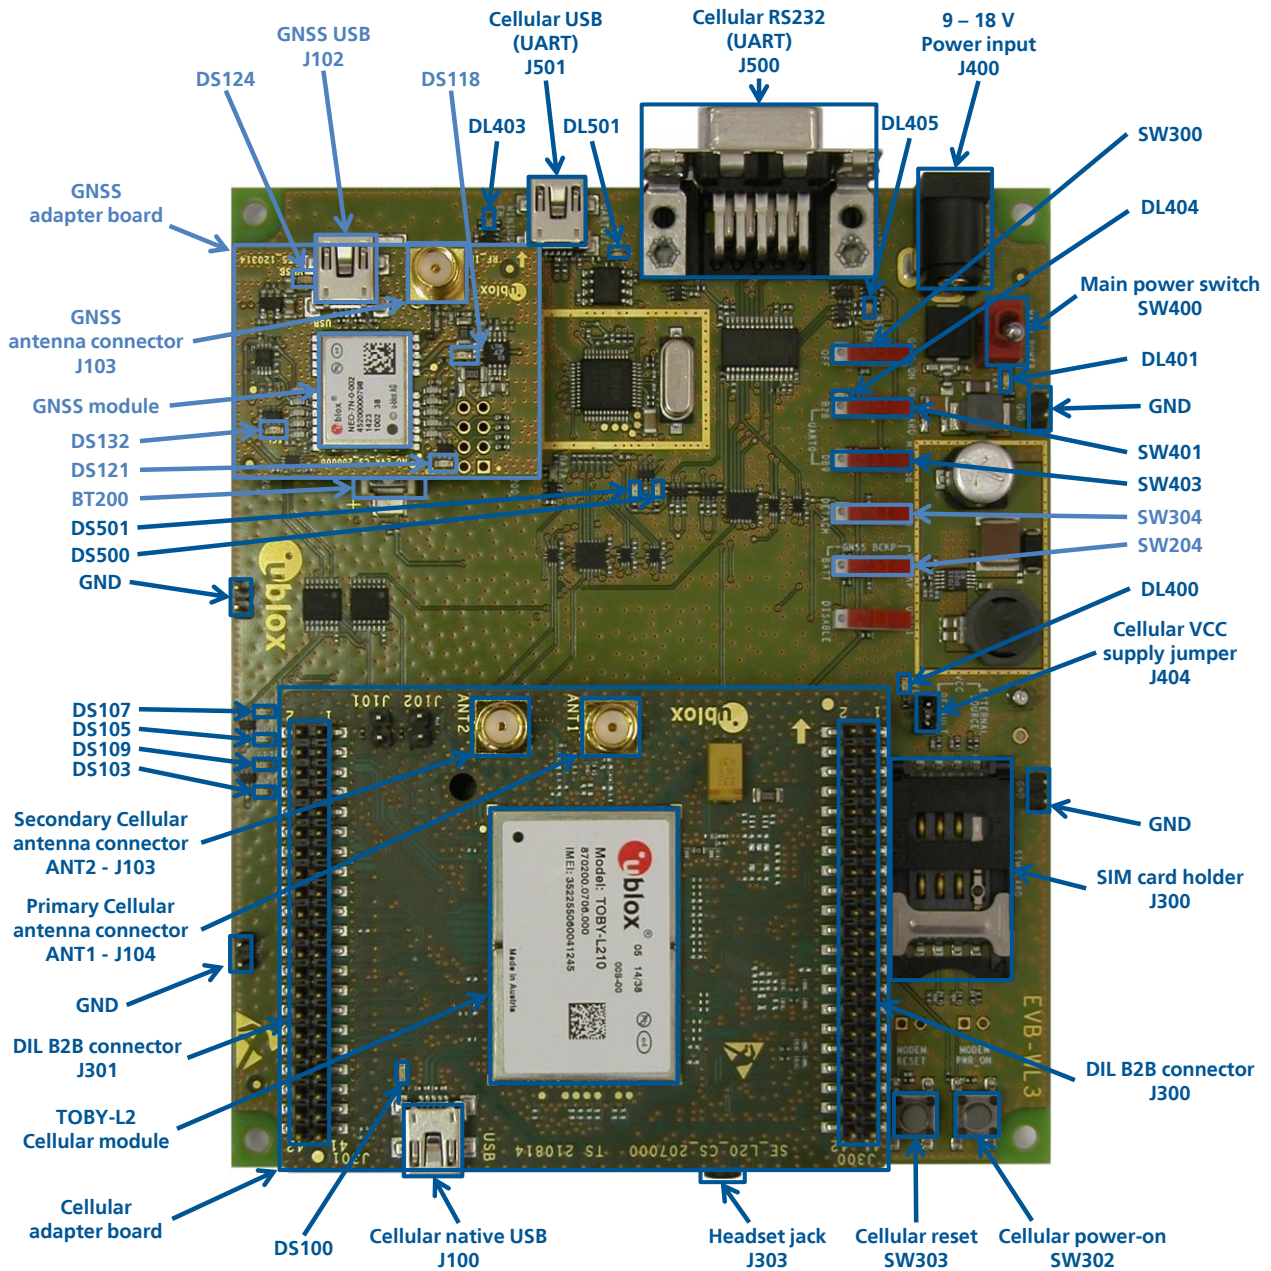
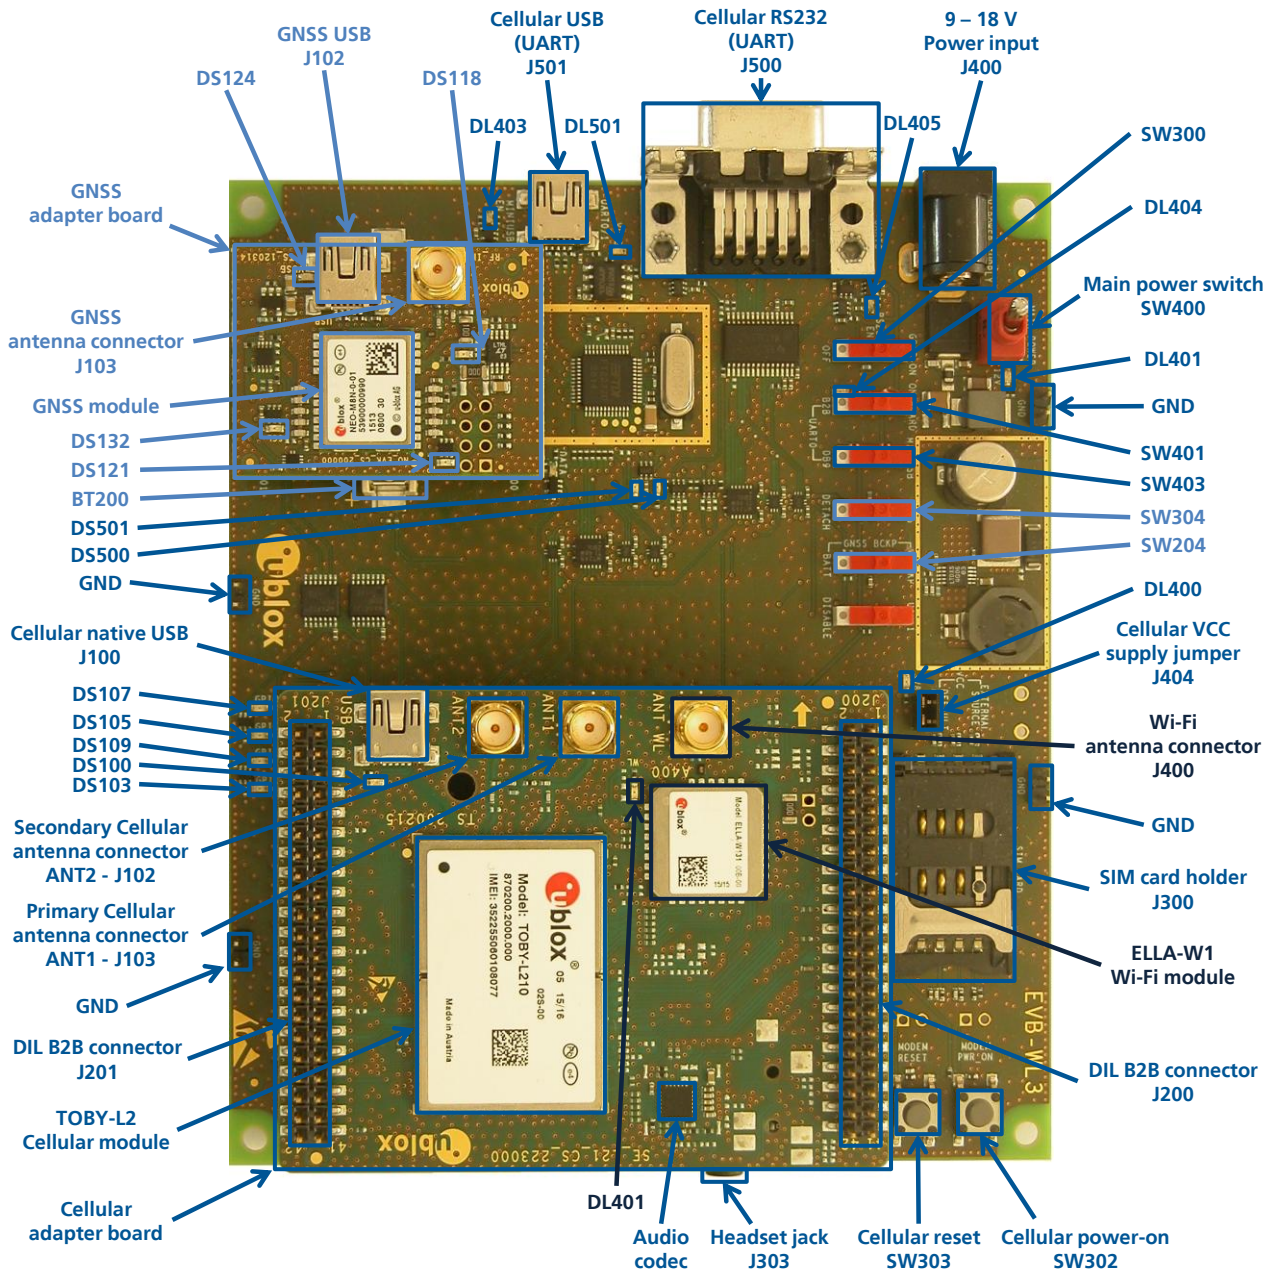

Figure 1: Overview of EVK-L2 evaluation kit for TOBY-L2 modules, product version "01"
Figure 2: Overview of EVK-L2 evaluation kit for TOBY-L2 modules, product versions "02" / "62" onwards
- Evaluation kits for TOBY-L2 module product versions "01" (see Figure 1)
- Evaluation kits for TOBY-L2 module product versions "02" / "62" onwards (see Figure 2)
The lower board (EVB-WL3) is designed to also be used with other u-blox cellular adapter boards. It contains additional switches, jumpers, connectors, LEDs and parts that are partially described in Figure 1, Figure 2 or in this document, because they are intended for use only with other u-blox cellular modules. It is recommended to leave any additional connector unconnected, and to leave any additional switch in its default configuration.